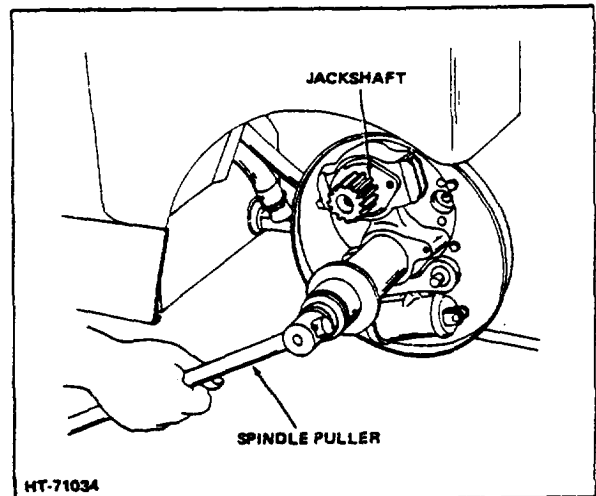

Figure 3-1. Removing Spindle
4. Install spindle puller and remove spindle (Fig 3-1).